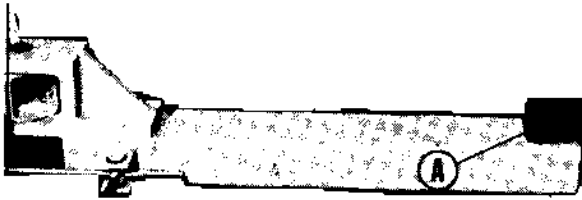

Fig. 22
43. Place pads on each arm extension and place a long and short pad extension into the holes at post center on each side. (See fig. 22).